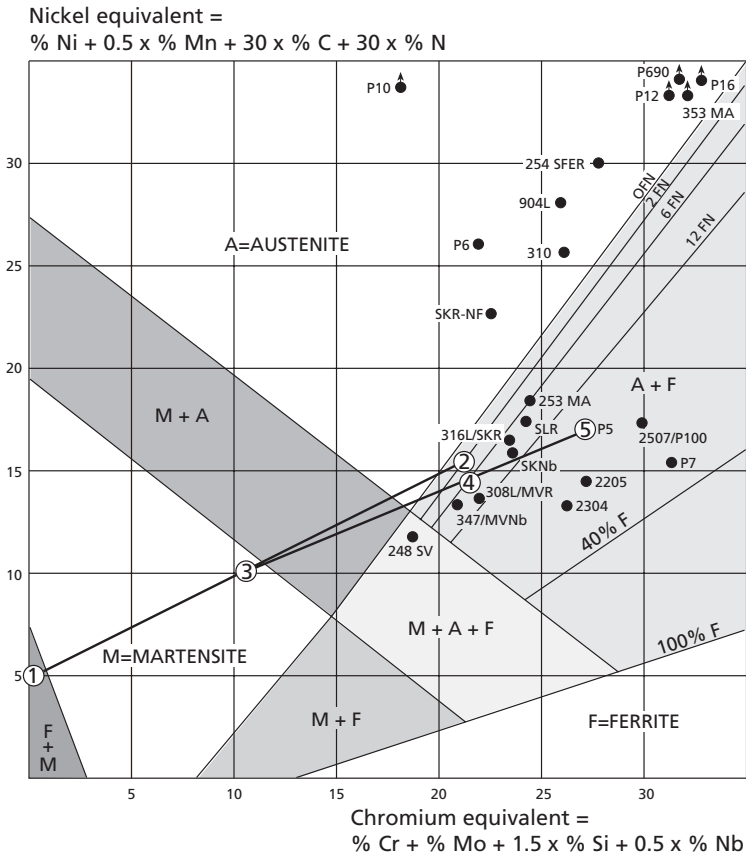
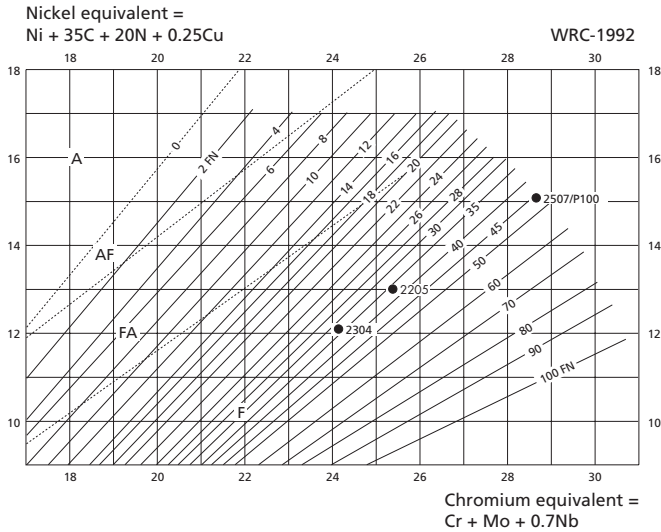

Figure 1.12 DeLong diagram for welding consumables
Figure 1.13. WRC-92 diagram for welding consumables
Ferrite values can be expressed in several different ways. For example, as per ASTM E562, they can be given as volume fractions (expressed as percentages). Although this is the most accurate method, determination is very time consuming and expensive. For these reasons, a metal's ferrite value is normally given as measured by instruments such as Magne-Gage or Ferritscope, or as calculated from the weld metal composition. In this second case, ferrite content is expressed either as a percentage or as a ferrite number (FN). This latter approach is often preferred. Ferrite numbers are normally calculated using either DeLong (figure 1.12) or WRC-92 diagrams (figure 1.13).